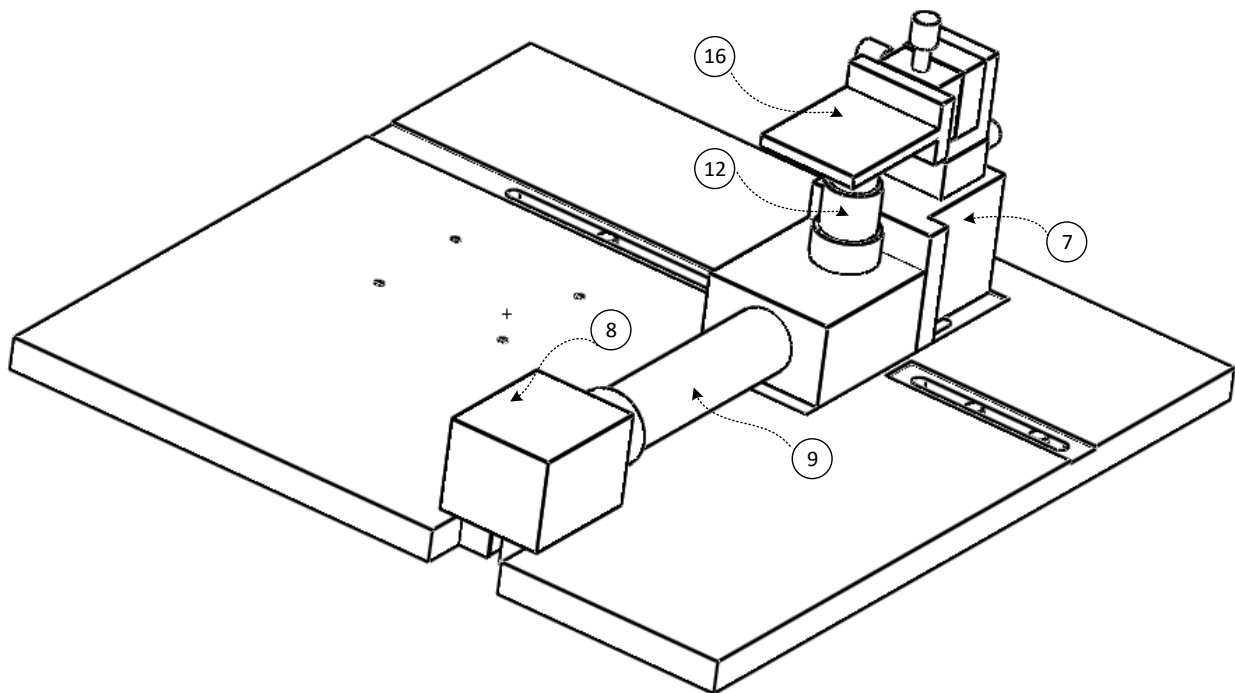

Figure 2-1. Microscope mounted on baseboard
- 2.2. Mount Digital Camera (7):** In the designated slot (21), insert a screw to mount the digital camera. Gently insert the camera tube (9) in the slot, located on the side of the optics holder (7), facing the camera. Gently tight the screws of the optics holder as well as the camera. This steps completes finishing the construction of the microscope (figure 2-1) for the Picomeasure PM-2.